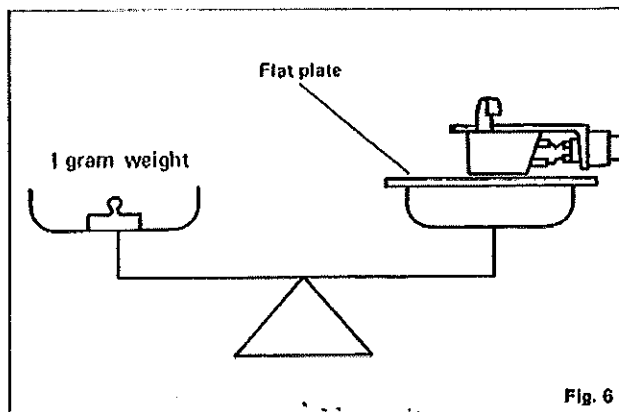

Fig. 6
- 3) Place the cartridge on one side of the scale and a 1 gram weight on the other side. If the cartridge body does not rest on the scale due to the tonearm pipe touching the scale edge, mount a suitable flat plate on the scale as shown in Fig. 6 and balance it again, before weighing 1 gram.